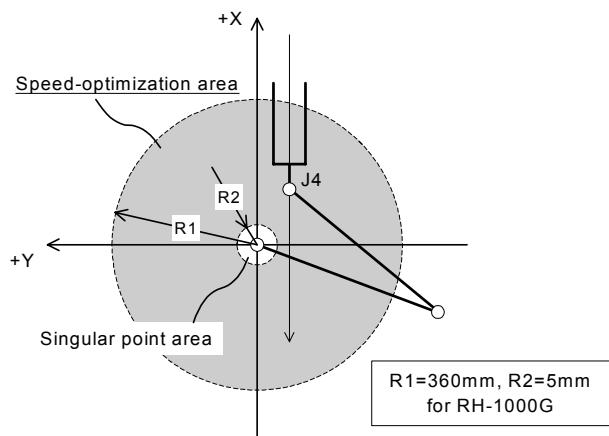

Fig.4-21:Speed-optimization area and singular point area.
(2) This instruction functions only for XYZ interpolation. It does not function for JOINT interpolation and CIRCULAR interpolation. Also, it does not function for linear interpolation by which the J4 axis does not pass through the speed adjustment area and the singular point as shown in Page 215 "Fig. 4-21 Speed-optimization area and singular point area."
- (4) If the END instruction or a program reset operation is executed, the status of the speed adjustment function returns to the initial state immediately after the power is turned on.
- (5) When the speed adjustment function is enabled, error 2804 will be generated if the XYZ interpolation by which the J4 axis passes through a singular point area shown in Fig. 4-21 is executed, and the operation is then suspended.
- (6) Even if this instruction is described in a program, it is ignored on models other than the applicable models.
- (7) Even if the speed adjustment function is enabled, an exceeded speed error may be generated if a path is connected by enabling the CNT instruction near the origin point, or a XYZ interpolation operation that drastically changes the posture is executed. In such a case, move the position where a path is connected away from the origin point, or adjust the speed by using the OVRD instruction.
- (8) In the case of a XYZ interpolation that operates slightly in the horizontal direction but operates significantly in the vertical direction, the operation speed may degrade drastically when the speed adjustment function is enabled vs. when it is disabled. In such a case, disable the speed adjustment function, or operate by using a JOINT interpolation (MOV instruction).